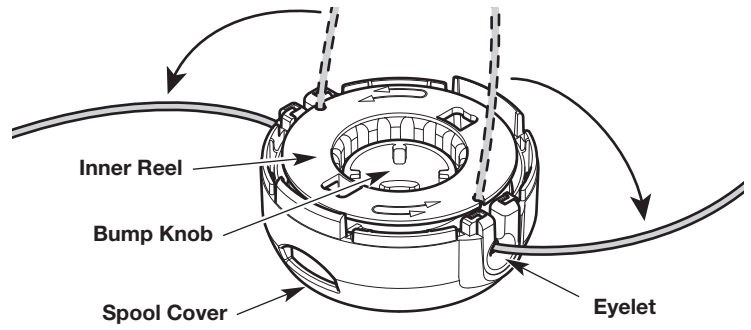

Fig. 23
1. Insert the inner reel into the spool cover (Fig. 23).
2. Insert the bump knob into the inner reel (Fig. 23).
4. Turn the inner reel to align the line ends with the eyelets on the spool cover (Fig. 23). Push the line ends out of the holding slots and into the eyelets (Fig. 23). Hold the line ends in place to keep them from unwinding.